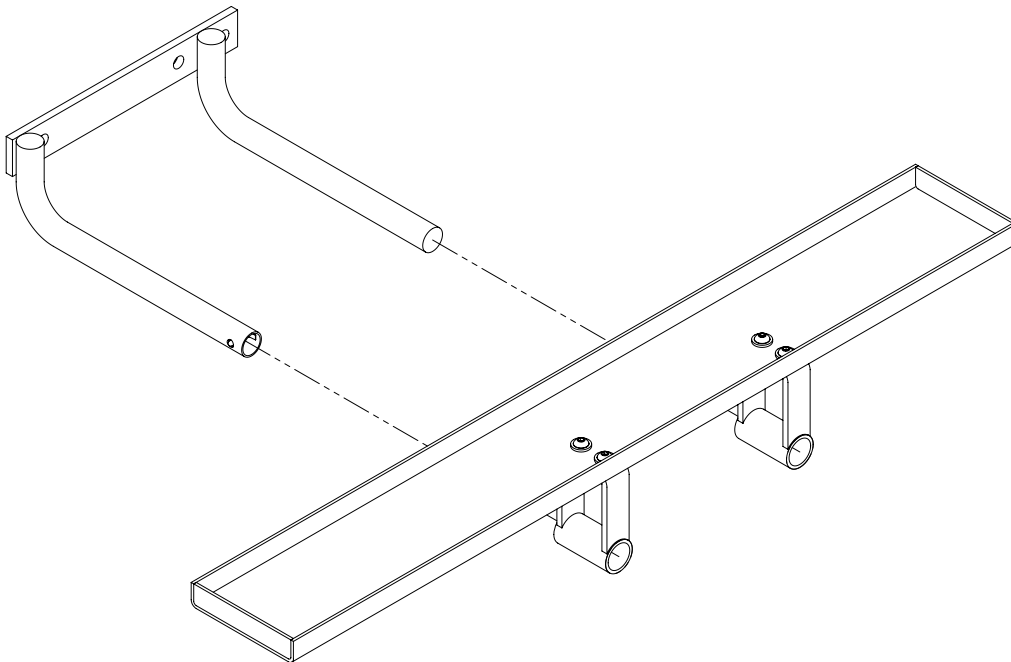

Figure 4 - Attaching Wheel Track to Wheel Bracket.
4. Depress the positioning pin and slide the Wheel Track onto the protruding wheel bracket tubes. Once the Wheel Track is positioned onto the Wheel Bracket, tighten the Socket Head Screws (see figure 4).